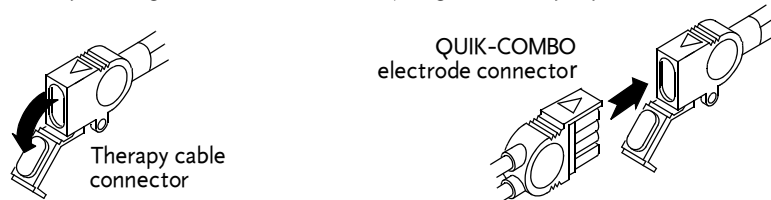

Figure 5-3 Connecting QUIK-COMBO Electrodes to Therapy Cable
- Open the protective cover on the QUIK-COMBO therapy cable connector (refer to Figure 5-3).